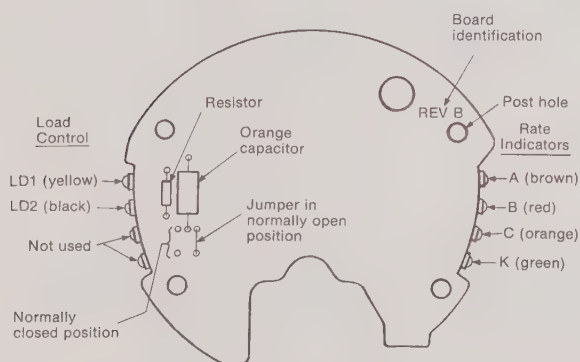

Fig. 16. Power supply board identified as "REV B," showing cable terminals for load control and rate indicators.
5. Electrically connect the spade connectors as shown on Fig. 16 or 17. Dress the cable up the left side of the meter and under the meter nameplate, ensuring no interference with the meter disk and calibration screws.
At the rear of the TM-80 register module is the power supply board (see Fig. 5). This board can have two different configurations, either "REV B" or "REV D," as shown in Figs. 16 and 17. The REV B board (Fig. 16)
For the REV B board (Fig. 16), load control connections are made on the left side to terminals LD1 and LD2. The load control switch is set at the factory in the normally open position with the jumper as shown. If the normally closed condition is desired, the jumper must be unsoldered and then resoldered in the left-hand position across the two solder points identified as "Normally closed position." The arc-suppression circuit limits the application of this board to 120 volts. The rate-indicator switch connections are always made as shown.